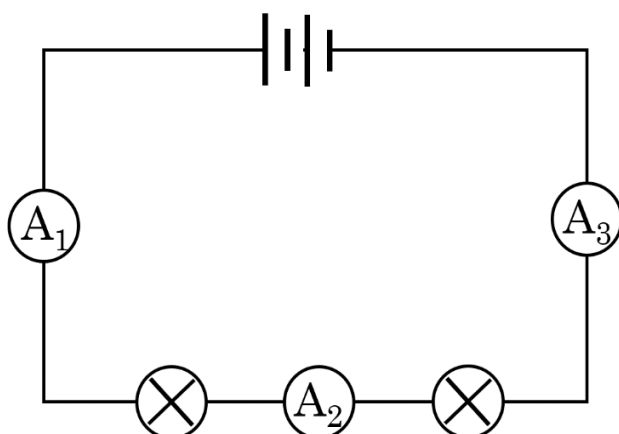
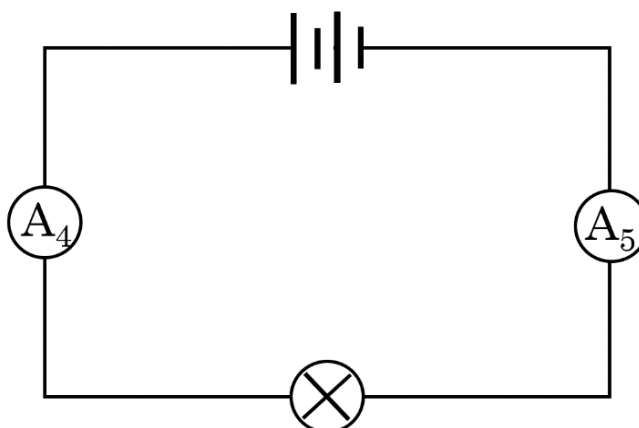

Fig. 3. Measurement current in the series circuit
Fig. 4. Measurement current in the simple circuit
2) Connect an ammeter with each of the positions A1 - A3 in the series circuit shown in Fig. 3 and fill the measurement values in Table 1 below.
4) Remove one miniature bulb from the series circuit and assemble a simple circuit again (see Fig. 4).
5) Connect the ammeter to each of the positions A4 and A5 in the circuit shown in Fig. 4 and fill those measurement values in Table 1 below.
Table1. Amperages in Fig.3 and Fig.4
Through Experiment 2, learners learn the amperage (current value) measured at any point (A1 - A3) in the series circuit is consistent, as well as, it is almost same as the amperage measured in the simple circuit shown in Fig. 4.